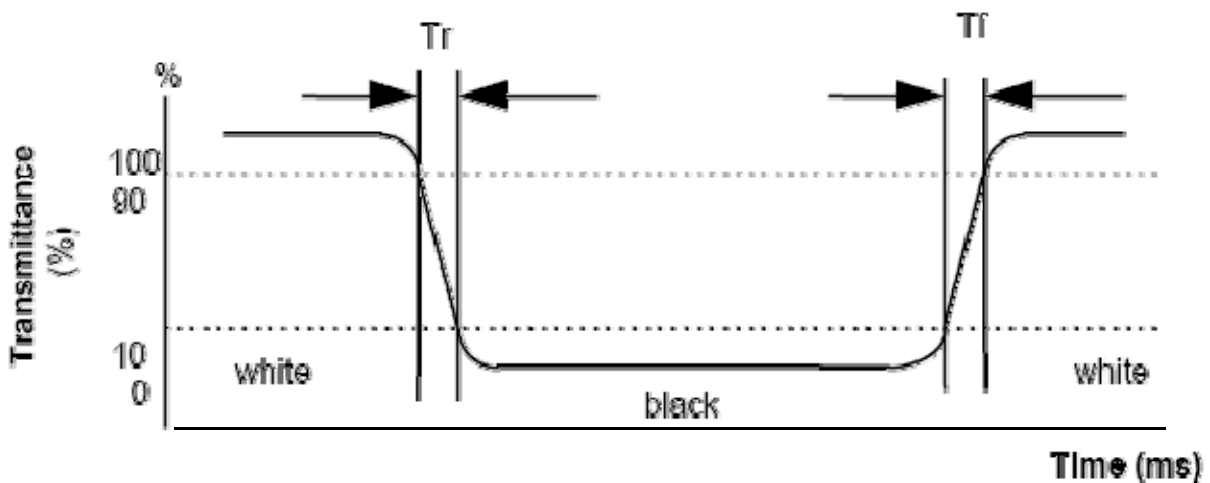

**FIG. 2 The definition of Response Time**
| 3) Response time    | Tr+Tf      | -      | 25    | 40    | ms                | FIG.2 |
3. Response time is the time required for the display to transition from white to black (Rising Time, Tr) and from black to white (Falling Time, Tf). For additional information see FIG 2.